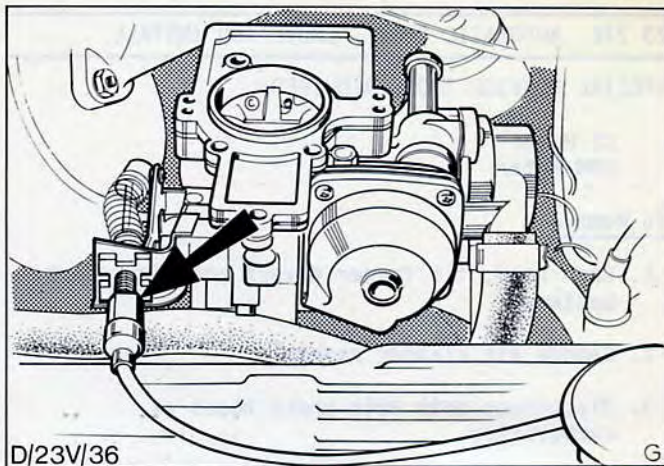

Fig.78. Accelerator cable adjusting sleeve.
5. Wind back adjusting sleeve to a point where carburettor linkage is just in the fully open position, Fig.78.